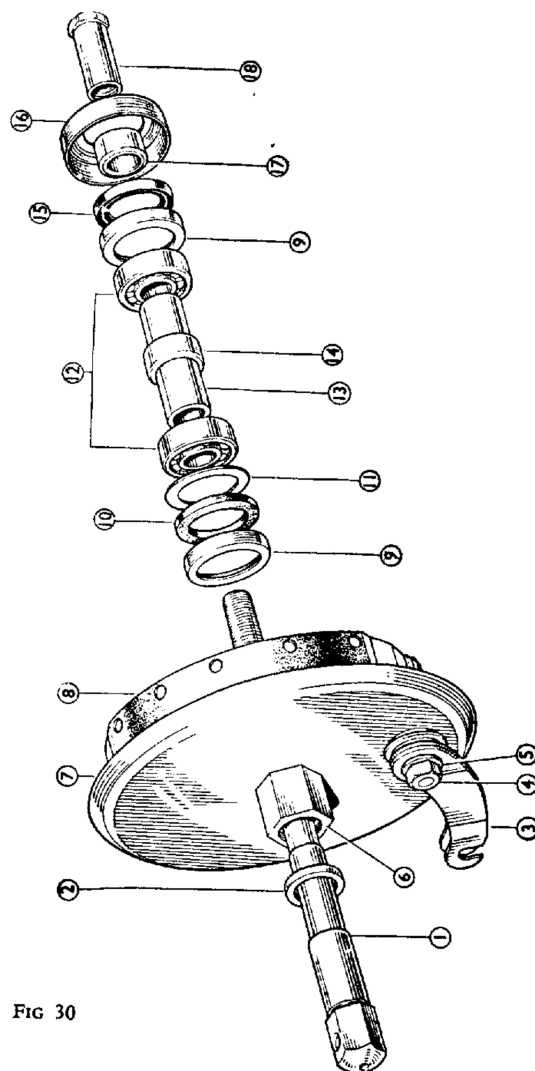

FIG 30
Front wheel (1960-62 Models). (Fig. 30). It will be seen that the outside diameter of the spacing tube (13) is nearly the same as the inner member of the bearing (12). In consequence the projection into the spacing tube is small.
Key to FIG 30